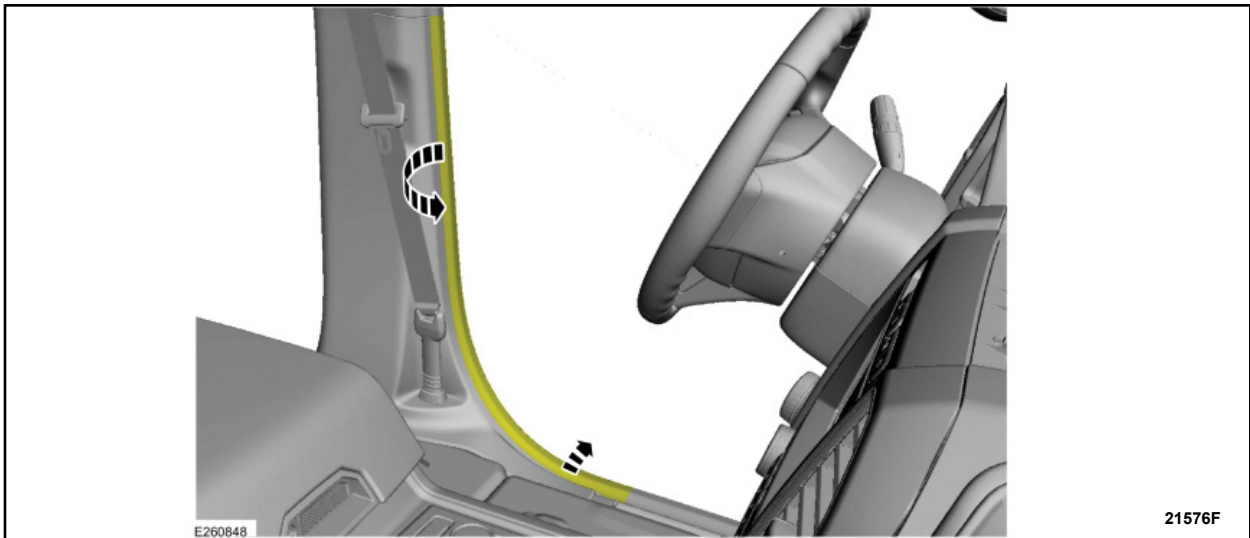

FIGURE 14
6. Position the front door weatherstrip aside. See Figure 14.